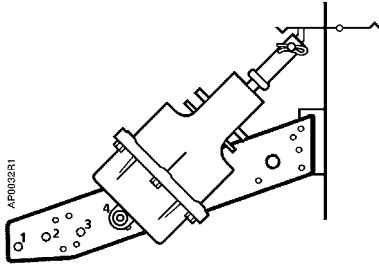

Figure 9. Frame Mounting, Normally Open Damper.
4. Attach Rocker 333-034 to blade in proper position for normally open or normally closed damper using 2 nuts, 041-230K, and 2 screws, 030-510J. See Figure 9 and Figure 10.
- a. Normally Open damper: attach the plate to the lug. Place the pivot post in Hole 4. See Figure 9.